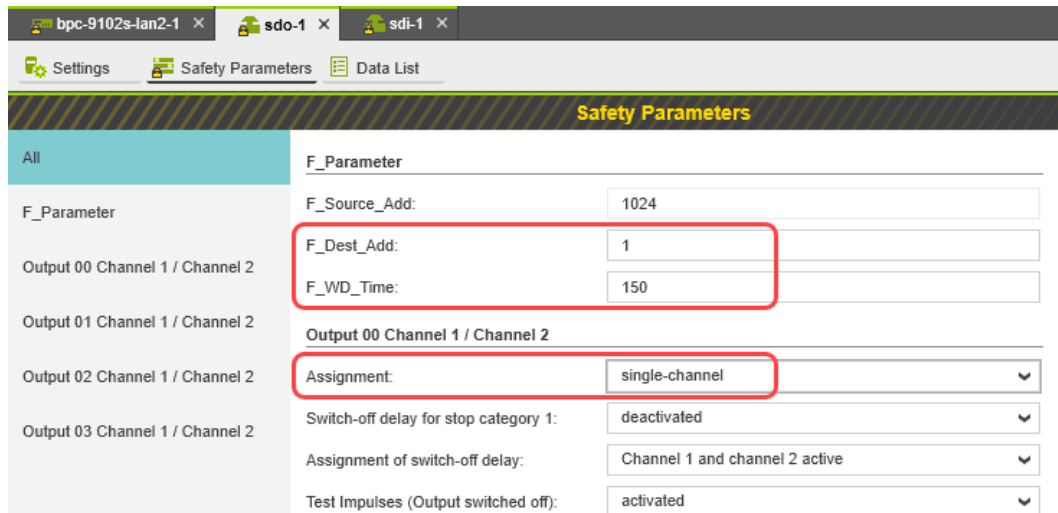

Figure 6-33 “Safety Parameters” editor: AXL F PSDO8/3 1F
- Under the “Profinet (x)” node in the “PLANT” area, double-click on the lower-level node of the safety module whose safety parameters you want to set (in the example in Figure 6-33: AXL F PSDO8/3 1F).